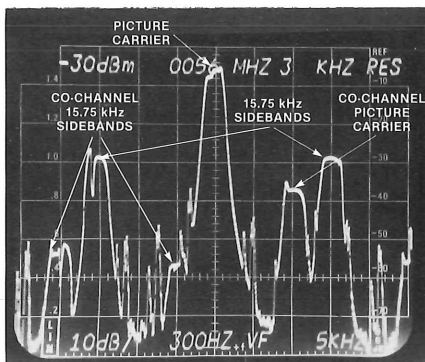

Figure 5-3. Co-channel signal with +10 kHz carrier offset.
3. With the analyzer's FREQUENCY SPAN and the RESOLUTION controls locked together, decrease the frequency span to 5 kHz/DIV while keeping the trace centered. The display should look similar to figure 5-3 with video modulation (random spikes) running through the display. If co-channel interference is present, it will appear as an additional carrier offset 10 or 20 kHz from the picture carrier.
2. Additional carriers may be observed from strong co-channel stations. These carriers are the 15 kHz sidebands caused by the horizontal sync pulses on the co-channel signal. This can be seen at the first graticule line from the left in figure 5-3.